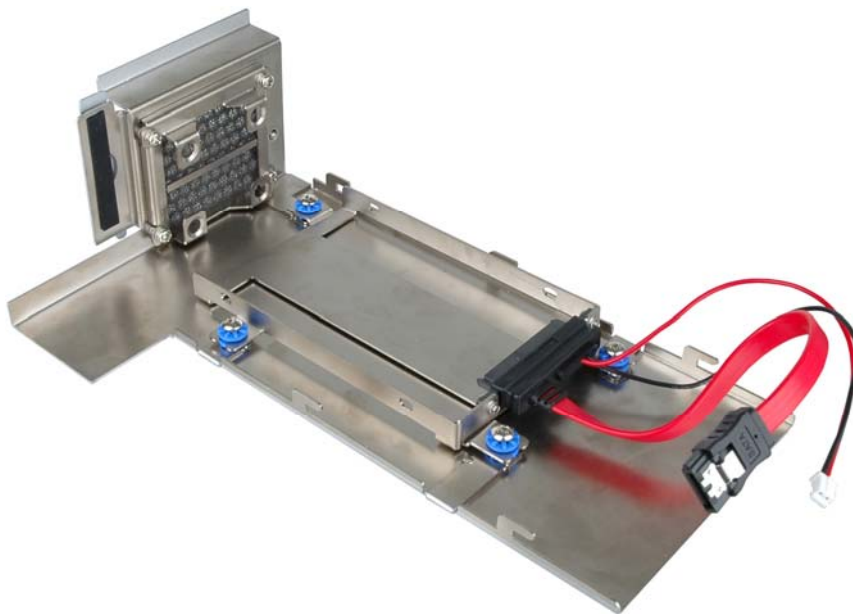

Figure 3-5: Remove the Cover from TANK-800
Step 2: Unplug the SATA signal and power cables connected to the TANK-800, and then put the cover on a flat surface (**Figure 3-5**).
Step 2: Unplug the SATA signal and power cables connected to the TANK-800, and then place the cover on a flat surface (**Figure 3-5**).